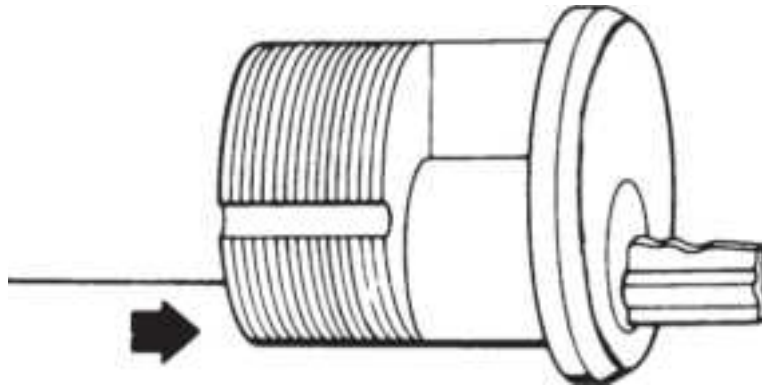

**Figure 13.33** Lubricating cylinder.
**Problem 9: Key breaks in the lock.** Remove the cylinder from the lock. Insert a long pin or wire into the back end (cam end of the cylinder). Move it back and forth until the broken key stub is forced out through the front of the cylinder. Clean the cylinder with ethyl acetate and lubricate it with graphite before reinstalling (Fig. 13.33 ).